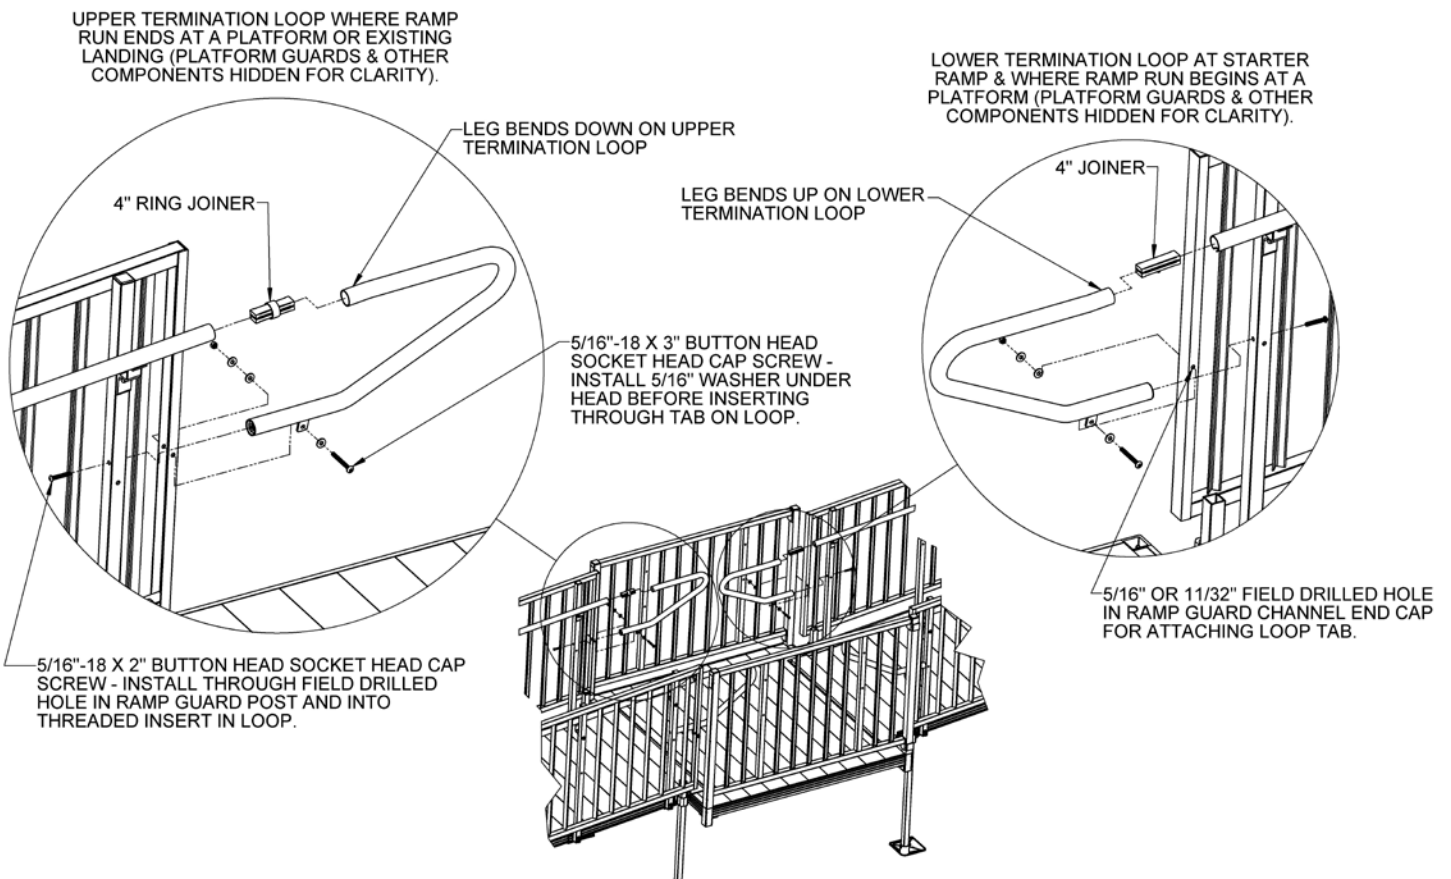

FIG. 40
- 8.2 At the bottom of the ramp (i.e., the starter ramp at the ground or ramp runs starting at a resting platform), install two lower termination loops into the ends of each handrail (FIG. 40).
- 8.3 At a straight through resting platform or upper end of a ramp run where hand rails are not returned to platform guards (FIG. 40):